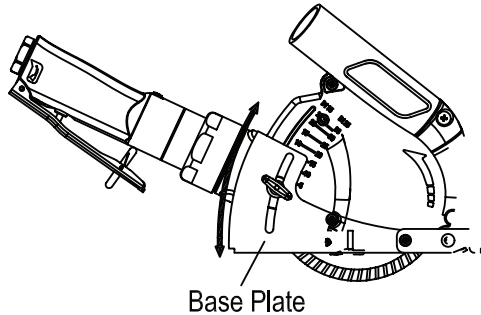
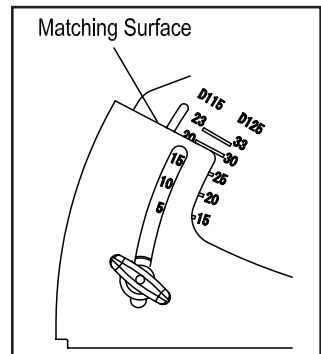

Figure 15
Figure 16
2. Slide the base plate to adjust the cutting depth and tighten the Knob (B) to fix the depth (Figure 15). Match the base plate matching surface to the scale to determine the approximate cutting depth. (Figure 16)